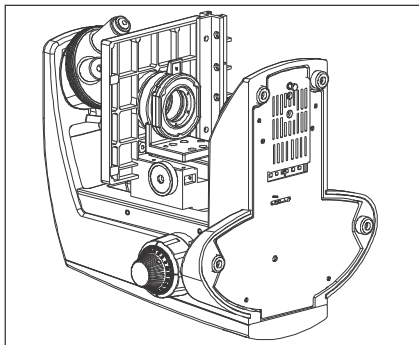

Fig. 1
2. To avoid potential electrical hazards when replacing either halogen bulb or LED, turn the microscope main switch to the OFF position and disconnect power cord from wall outlet in advance. Whenever you replace your microscope bulb, allow lamp socket and bulb to cool before touching (Fig.1)